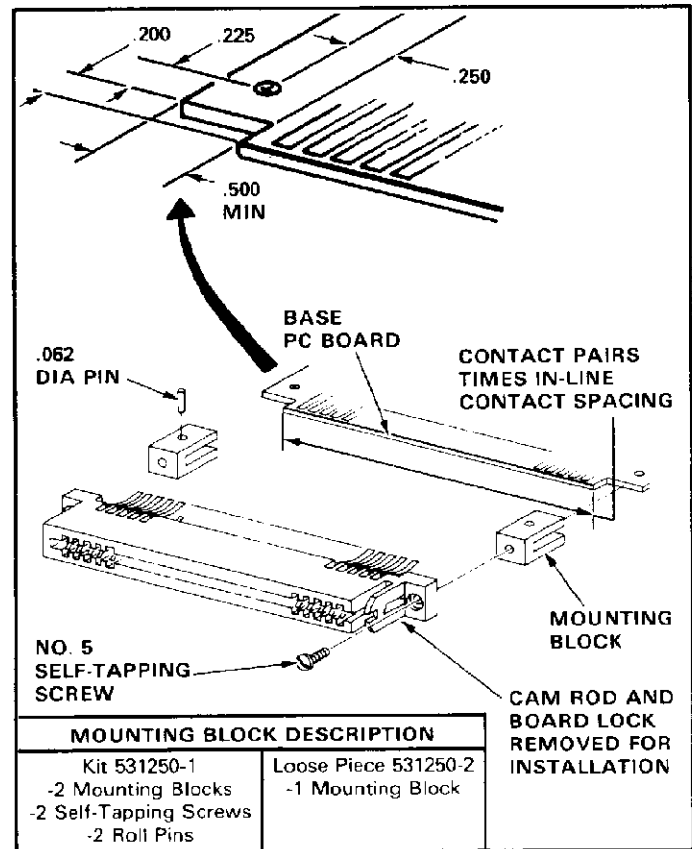

Fig. 5
Accessories include keying plugs for C-C connectors that provide connector polarization, protective covers that keep debris out of unused connectors, custom cam rods that are used to actuate several connectors mounted end to end, and mounting blocks for attaching card edge connectors to the edge of pc boards. See Figures 5, 6, 9, 11, 12, and 13.
B. Edge Mounting (Card Edge Contacts - Figure 5)
- If the connector has mounting ears, secure it to the pc board using AMP Mounting Bracket 531250 (see Figure 5).
9. MOUNTING BLOCK INSTALLATION (Figure 5)
AMP Mounting Blocks 531250 are designed to hold edge-mount connectors to pc boards. To install them, first make a cutout on the edge of the pc board using the dimensions shown in Figure 5. Attach the mounting block to the board with .062-in.-diameter pins. Use No. 5 self-tapping screws to secure the connector to the mounting blocks.